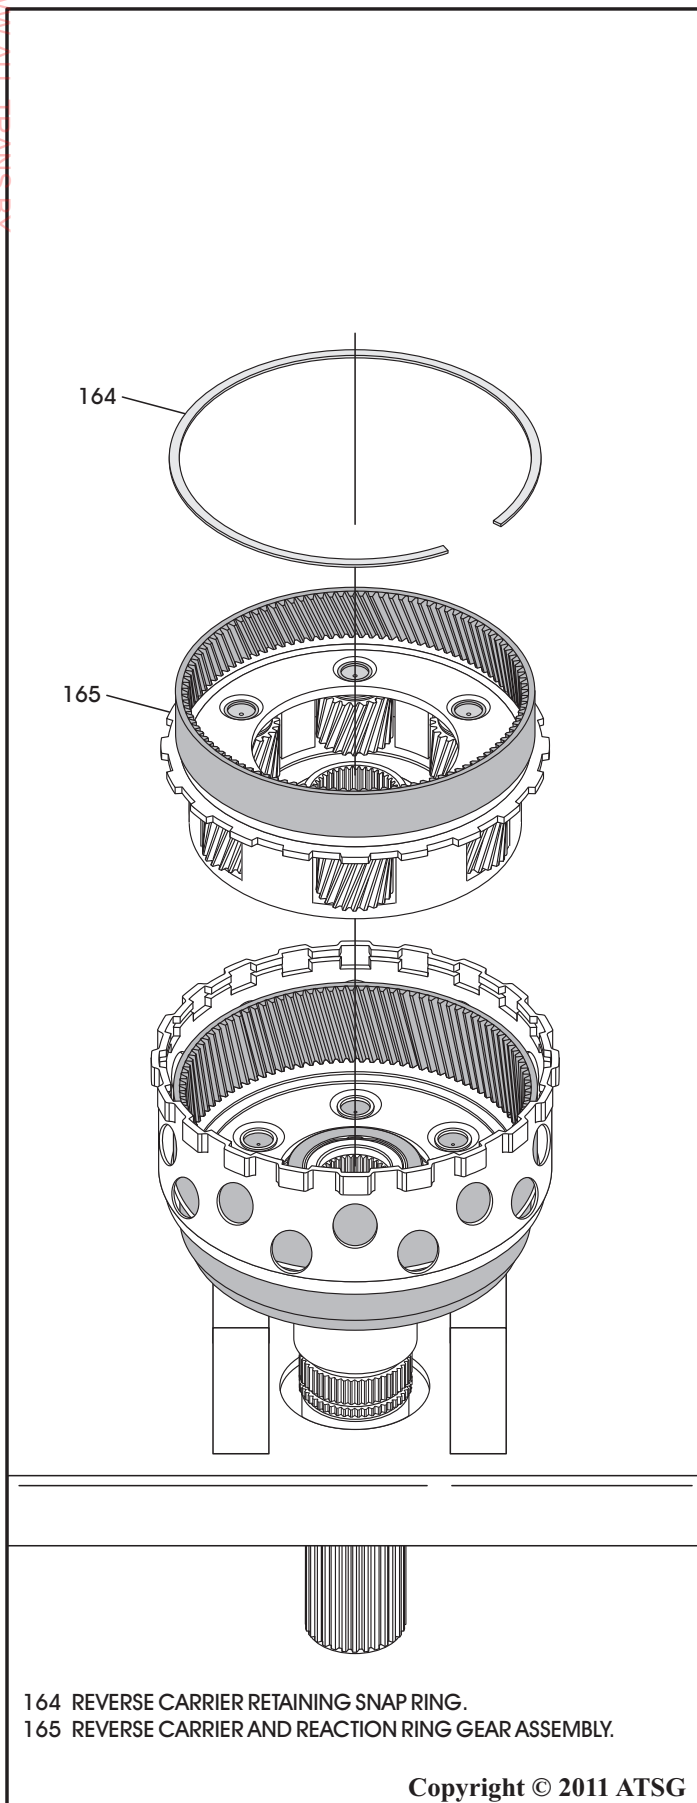

Figure 90
12. Install the reverse planetary/reaction ring gear, as shown in Figure 90, and rotate into position.
13. Install the retaining snap ring into the groove in the input ring gear, as shown in Figure 90, and ensure that it is fully seated.